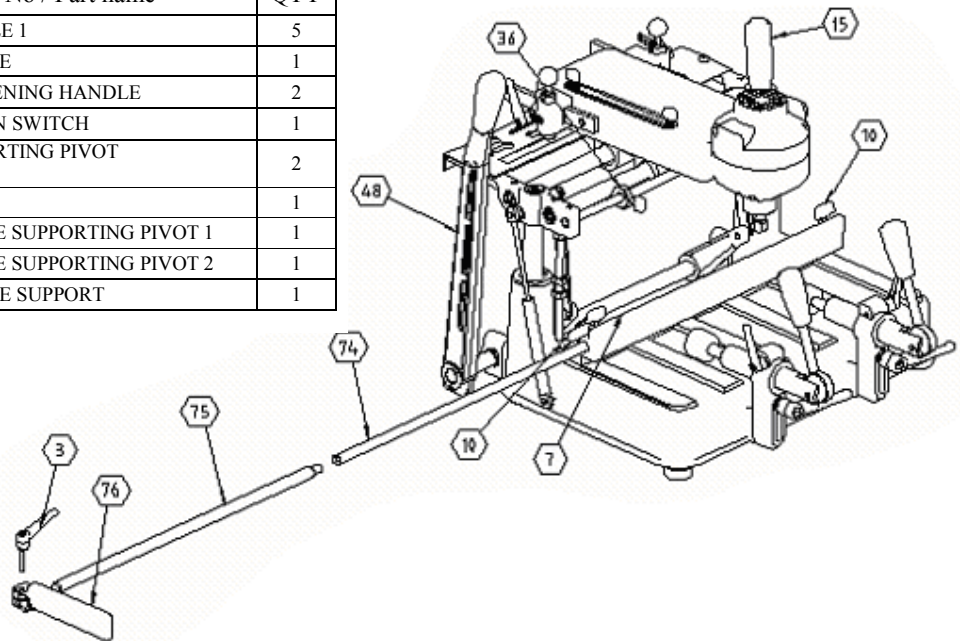

Figure-5
- 4.1.3. Movable parts on the machine should be fixed before carrying out the transport through the support shaft fixing bushing (Figure-5, No. 36).
- 5.1.4. At our portable copy router model LIBRA-02 P, connect the profile support bars by screwing the bars No. 74 and 75 into each other (Figure-5). Fix the set square fence No. 76 with the special screw No. 3 onto the support bars. Insert the assembled support bars into the slot on the set square No. 7, and tighten with the special screw No. 10.